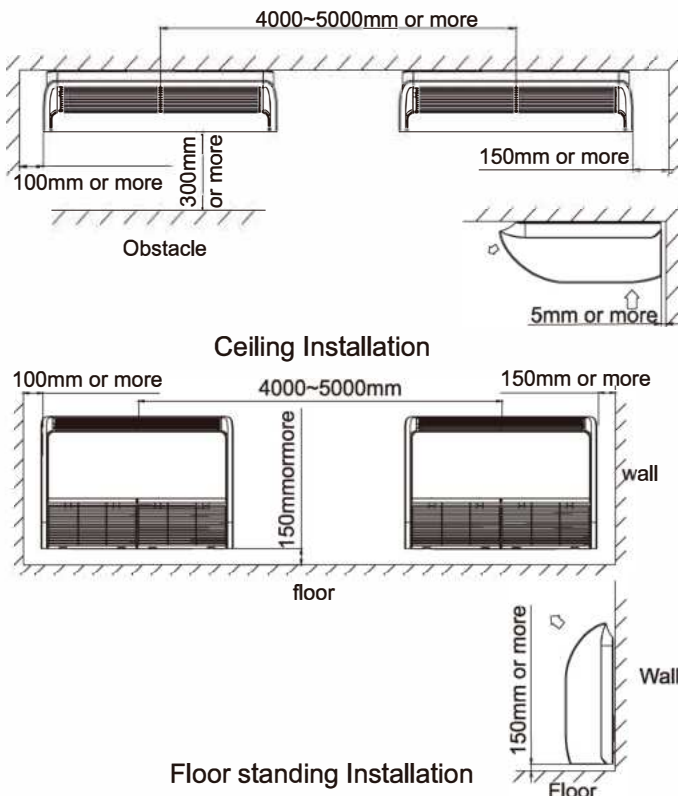

Fig. 3.2.1
- Sufficient clearance for maintenance and servicing is ensured. (See Fig.3.2.1 )